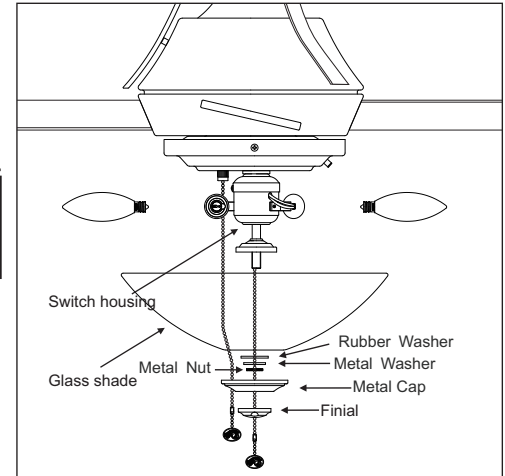

Figure 20
6. Place the 3 bulbs (40 Watt, included) into the Light kits.(Figure 20)
8. Install the glass shade, along with 2 washers previously removed, twist with the metal nut; install the metal cap, then twist the finial securely. (Figure 20)